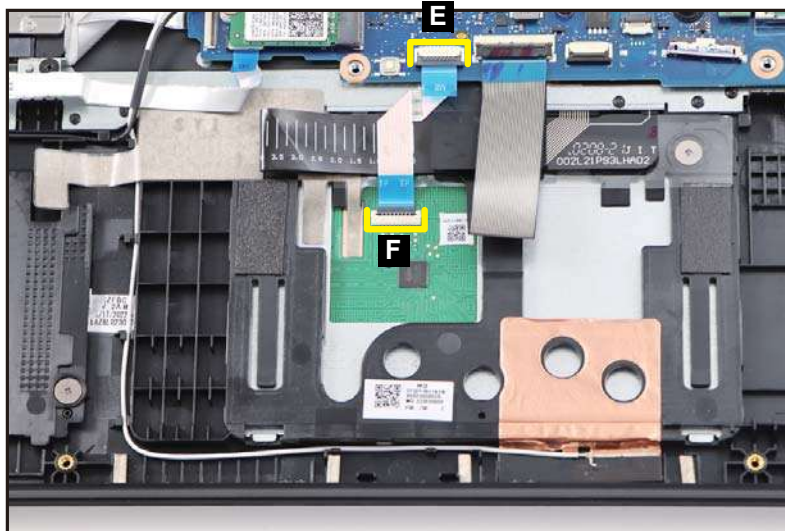

Figure 3-123. Replacing the Touchpad Module
5. Connect one end of the touchpad FFC to the mainboard connector (E). Then connect the other end of the FFC to the touchpad module connector (F) (Figure 3-123).